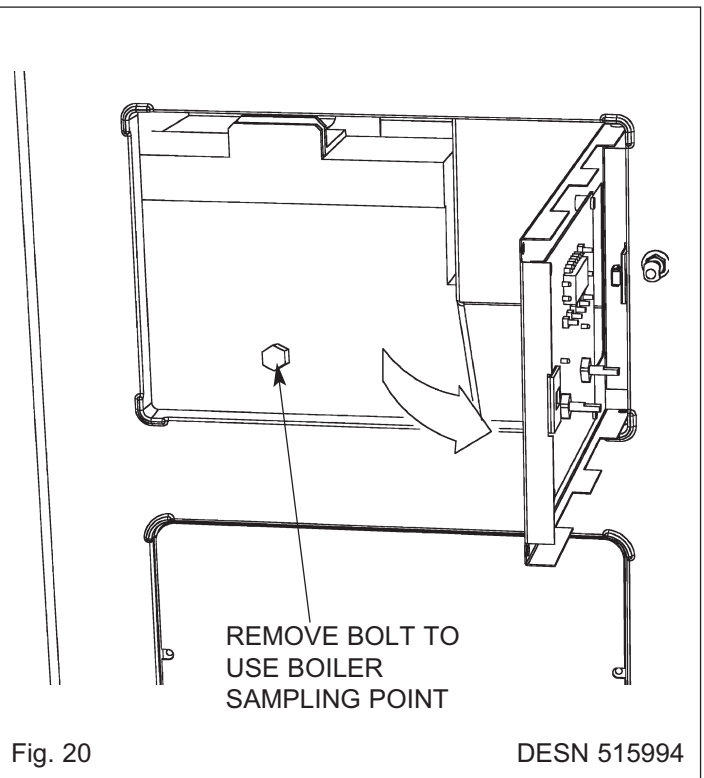

Fig. 20
2. Remove plug from sampling point. (See Fig. 20).